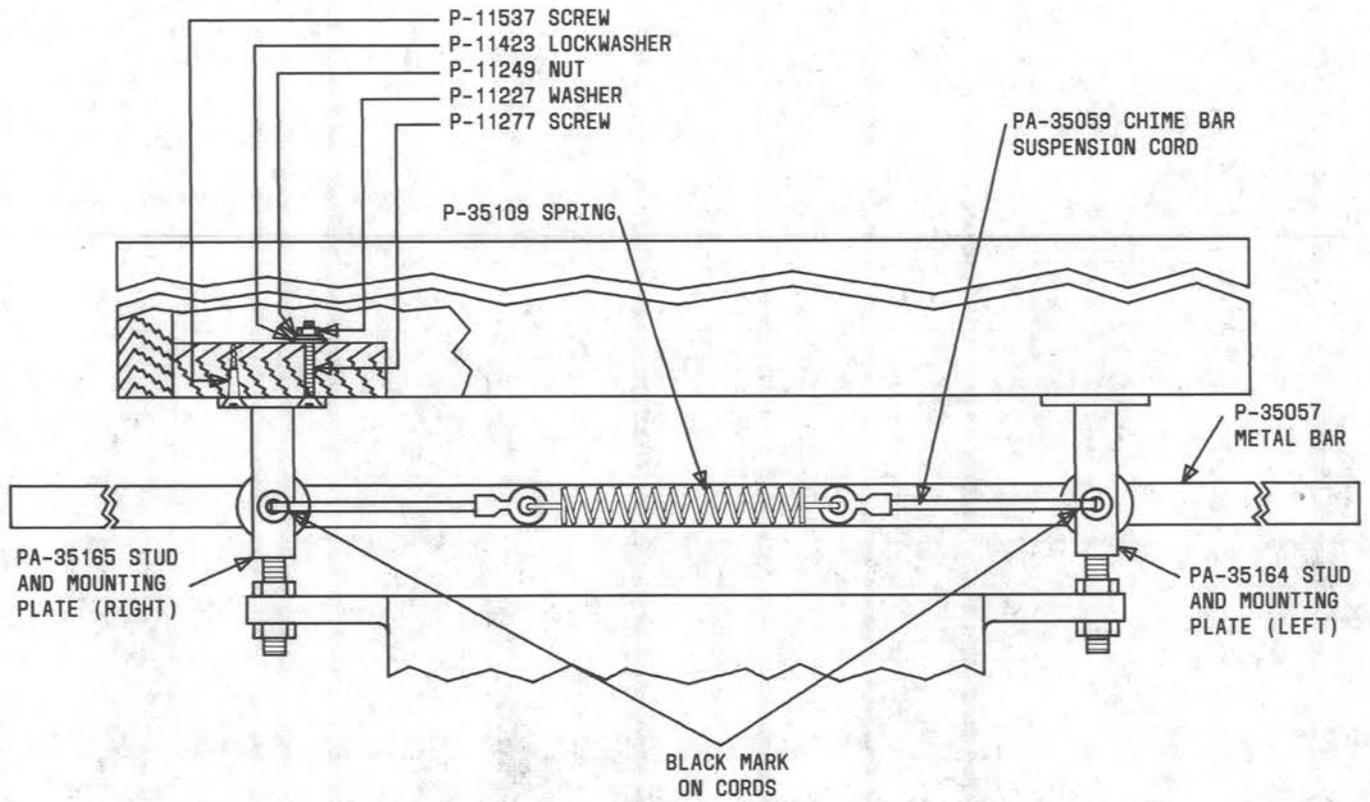

Fig. 5—KS-5594, L7, and L8 Signals-Bar Harp
4.11 Bar Harp (Fig. 5 and 6)
(a) **Extension Spring and Suspension Cord:** To replace an extension spring and suspension cord, remove the screws holding the anchor plates using the 3-inch C screwdriver. Untie the knot in the cords and remove the cords and spring. Hook the loop of a new spring to the terminals on the new cords. Insert the ends of the cords through the holes in the rear studs, washers, and bar. Pull the cord so that the spots on the cord of the appropriate color, as indicated in Fig. 5 or 6, are at the entrance of the holes in the studs. Tie the cords with a double knot against the front studs. Reassemble the anchor plates and lockwashers and securely tighten the screws.